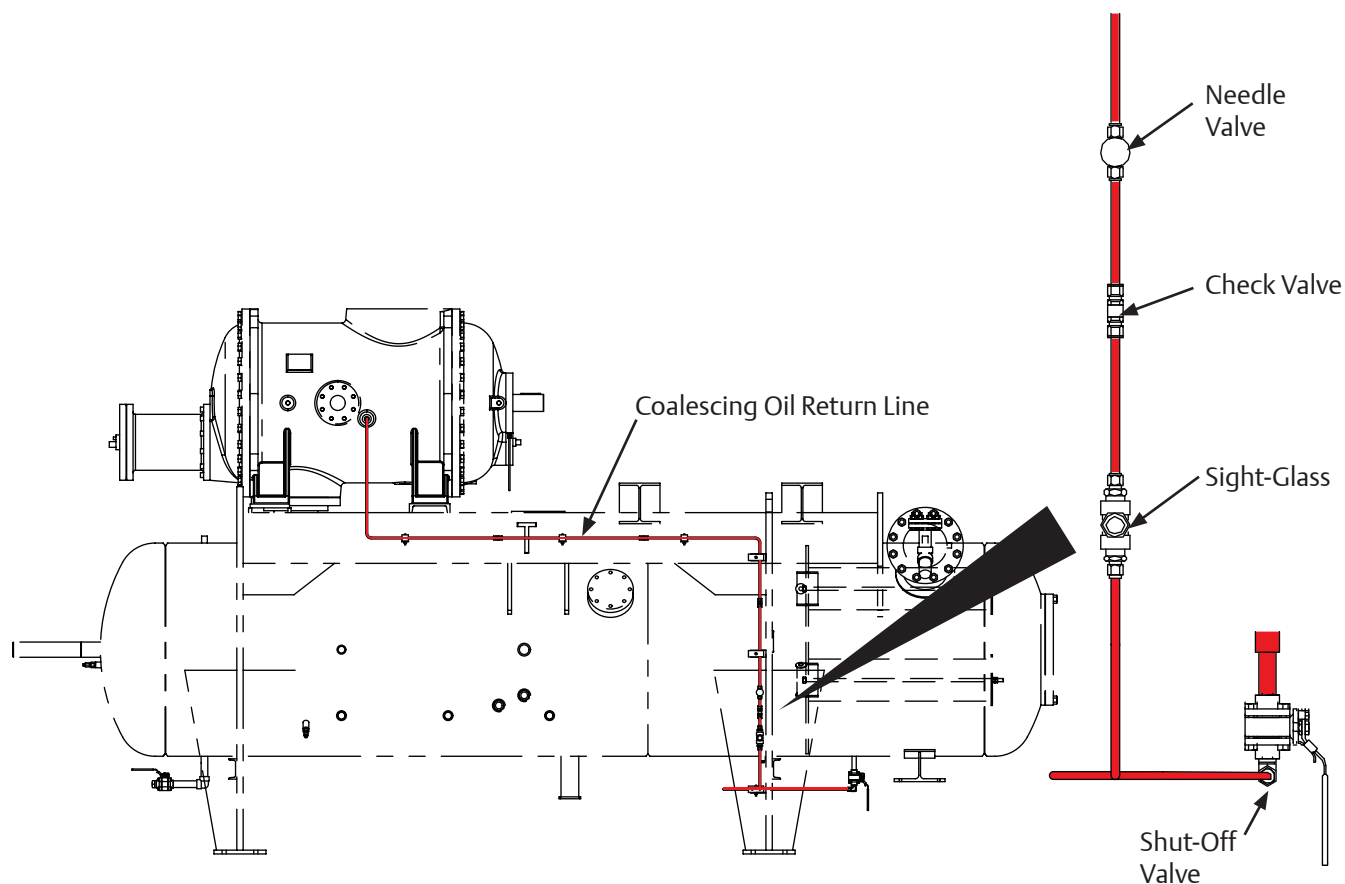

Figure 4-14. Coalescing Oil Return Line
1. Open shut-off valve on coalescing side of oil separator, see Figure 4-14.